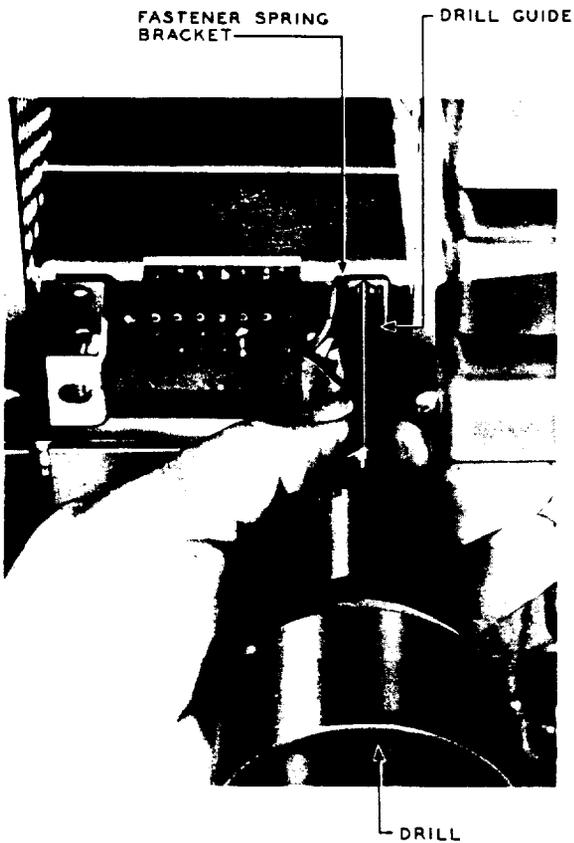

Fig. 4 - Method of Removing Rivet Heads Using Drill Guide
4.07 Using the drill and drill guide assembled as covered in Part 3, place the guide over a rivet to be removed. Then, while holding the guide firmly against the surface surrounding the rivet as shown in Fig. 4, drill out the rivet head. *Before drilling cover surrounding area with carbon to catch*